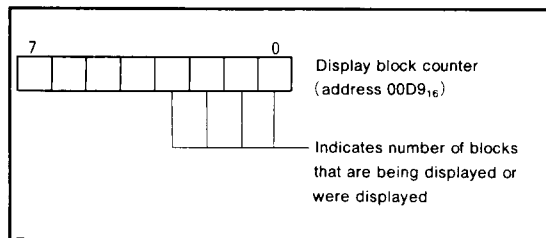

Fig. 29 Structure of display block counter
- ① Read the value of the display block counter.
- ② The block for which display is terminated (i.e., the cause of CRT interrupt generation) can be determined by the value read in ①.
- ③ Replace the display character data and display position of that block with the character data (contents of CRT display RAM) and vertical display position (contents of vertical position register) to be displayed next.
- Figure 29 shows the structure of the display block counter.